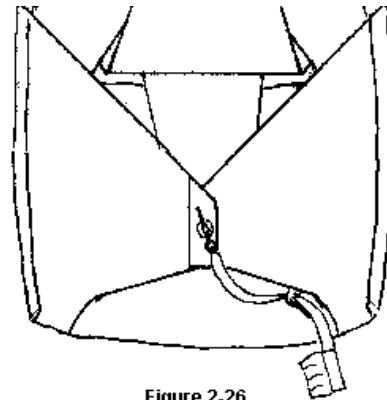

Figure 2-26
**Step 30** Close the #3 right side flap, then the #4 left side flap, securing the closure pin as shown in *Figure 2-26*.